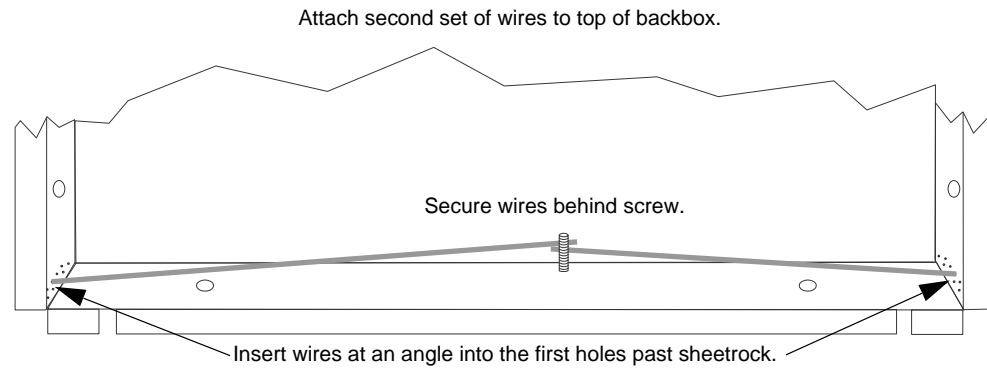

Figure 4.17 Flush Mounting the Backbox
3. Fit the annunciator backbox into the hole and stabilize with mounting wires. Angle the mounting wires into the first hole past the sheet rock. Secure the wires behind the screws as shown in Figure 4.17. When all four wires are in place, the backbox should fit snugly into the hole in the sheetrock.